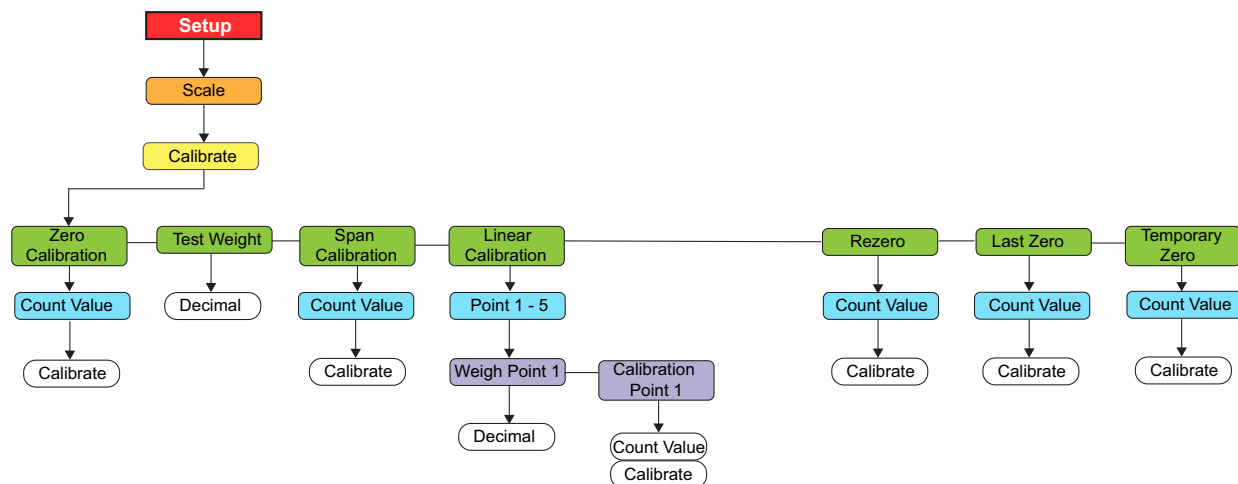

Figure 4-1. Calibration Menu
- Put the indicator in setup mode (Figure 3-1 on page 29) (or use  if audit trail is enabled), and navigate to **Calibrate** (Figure 4-1 on page 51).